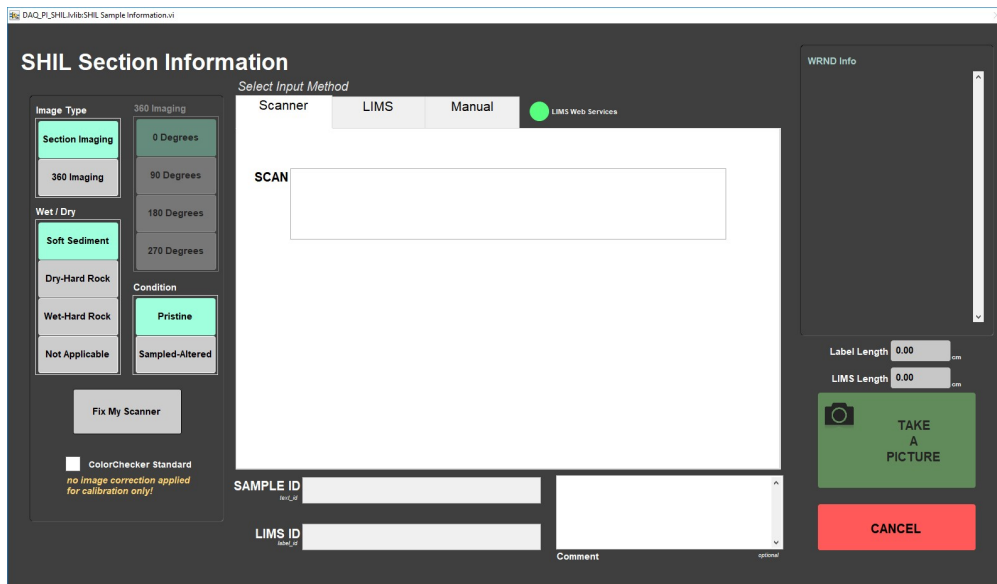

Figure 3. SHIL Section Information window
The **Sample Information** screen (Figure 3) will appear.
1. Click START and the **SHIL Section Information** screen (Figure 3) will appear.